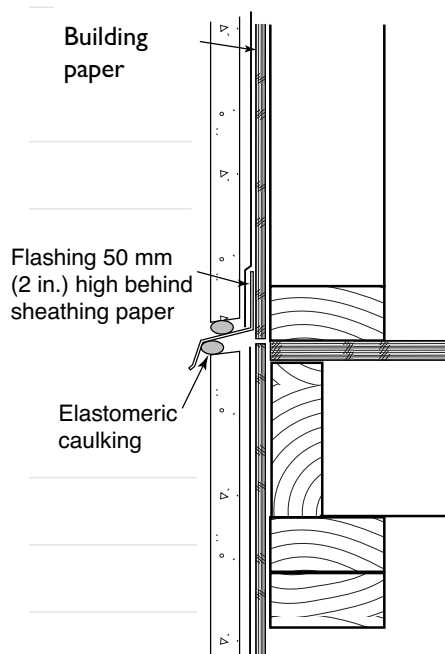

FIGURE 54
- ◆ Framing lumber will normally shrink as it dries after construction, most noticeably at floor header assemblies. Provide a movement joint, with appropriate flashings, above the floor header to accommodate structural movement (see Figure 54).